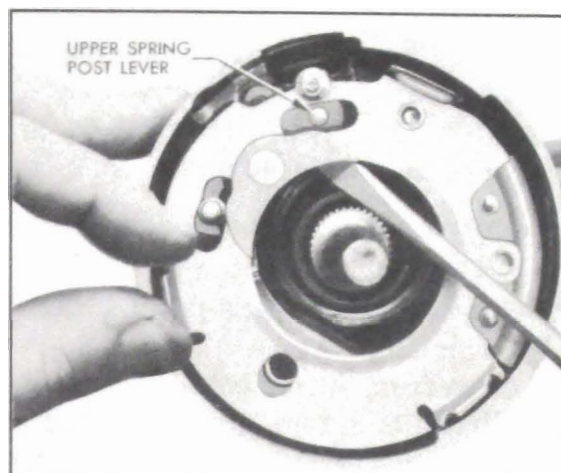

Figure 10-126—Installing Lever Plate
12. Using screwdriver, hold upper spring post lever in position to engage slot in lever plate as the lever plate is installed. See figure 10-126.